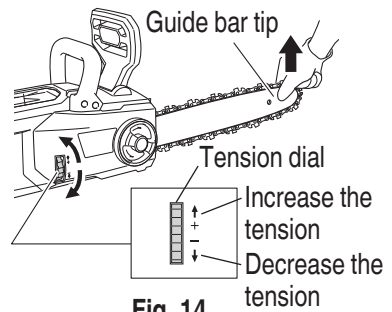

Fig. 14
5. Adjusting the saw chain tension (Fig. 14)